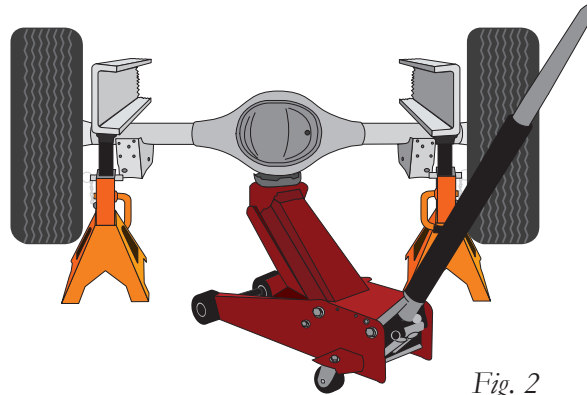

Fig. 2
1. Raise the vehicle and support it, using safety stands or equivalent, so that the axle can be safely dropped away from the frame. This needs to be done in order for the air spring assembly to be put into position between the axle and frame (Fig. 2).